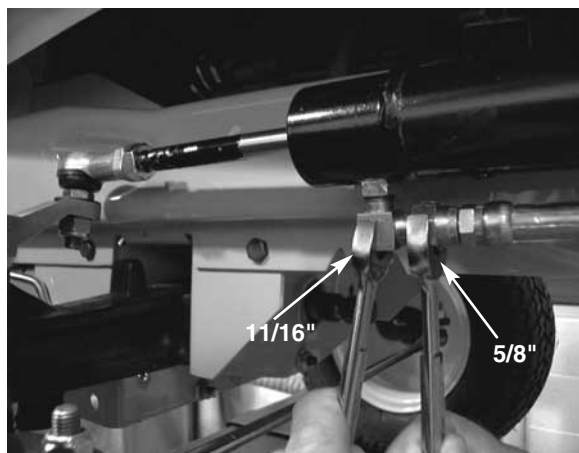

FIGURE 1.
2. Remove both hydraulic line connectors from the fittings on the cylinder using an 11/16" and a 5/8" open end wrench. See figure 1.